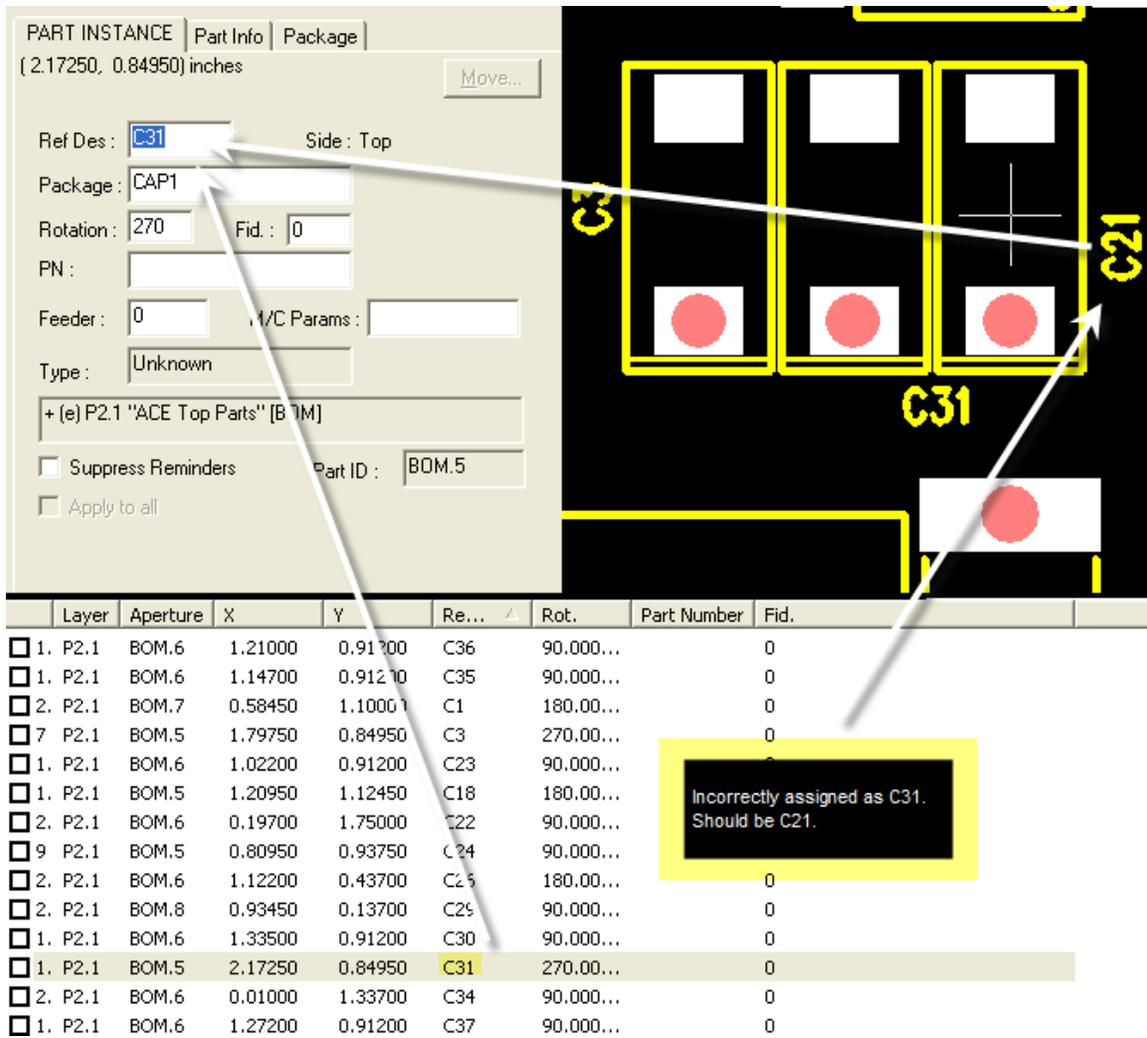

Figure 49
1. Edit enable the Top and Bottom Parts layers (P1 and P2), Select All (hot key "**"), then run Parts > Import BOM Information with the following parameters – See Figure 49: